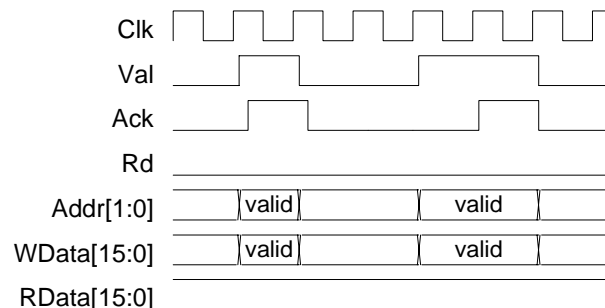

Figure 3: Example processor write cycles
The waveforms in Figure 3 show two separate write accesses. Again, in the first access the peripheral asserts the Ack signal soon after the Val signal has gone high (using combinatorial logic) and the write cycle is complete in 1 Clk cycle.
The Watchdog core always behaves like the first write access in Figure 3, with the Ack signal just being the Val signal fed back to the processor.
- Although the Watchdog core's write access always behaves like the first access in Figure 3, it is advisable that any bridge logic is able to handle the extended version of the accesses also, as they may be used in future versions of the core.